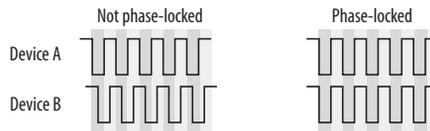

Figure 4-10: When transferring audio, two devices must have phase-locked audio clocks to prevent clicks, pops or other artifacts.
- Synchronizing the Traveler with other digital audio devices so that their digital audio clocks are *phase-locked* (as shown in Figure 4-10)